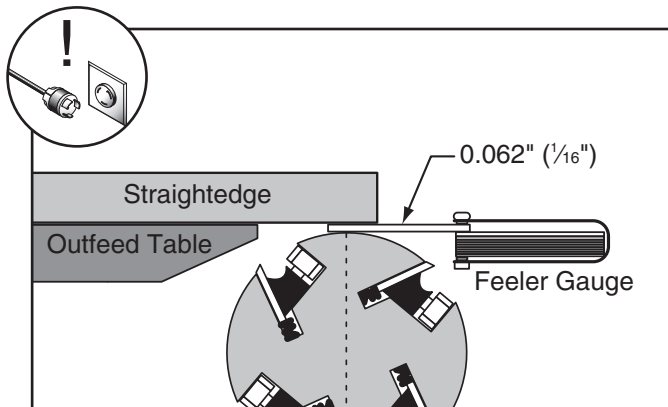

Figure 53. Using feeler gauges to set outfeed table height.
- Place the straightedge on the outfeed table so it hangs over the cutterhead, and lower the outfeed table until the straightedge is 0.062" ($\frac{1}{16}$ ") above the cutterhead body, as determined by using the feeler gauges (see **Figure 53**).